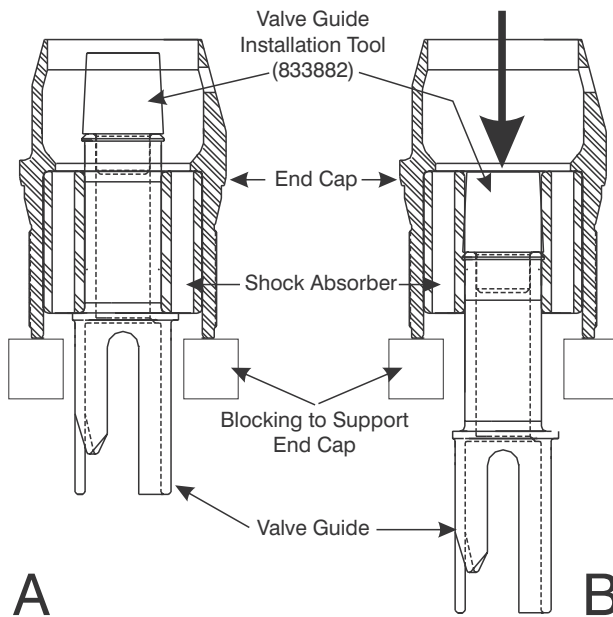

Figure 8-22. Press Valve Guide From Shock Absorber.
3. Insert the Valve Guide Installation Tool 833882 in the Valve Guide as shown in Figure 8-22-A.
4. Press the Valve Guide (12) from the Shock Absorber (13) and End Cap (15) as shown in Figure 8-22-B.